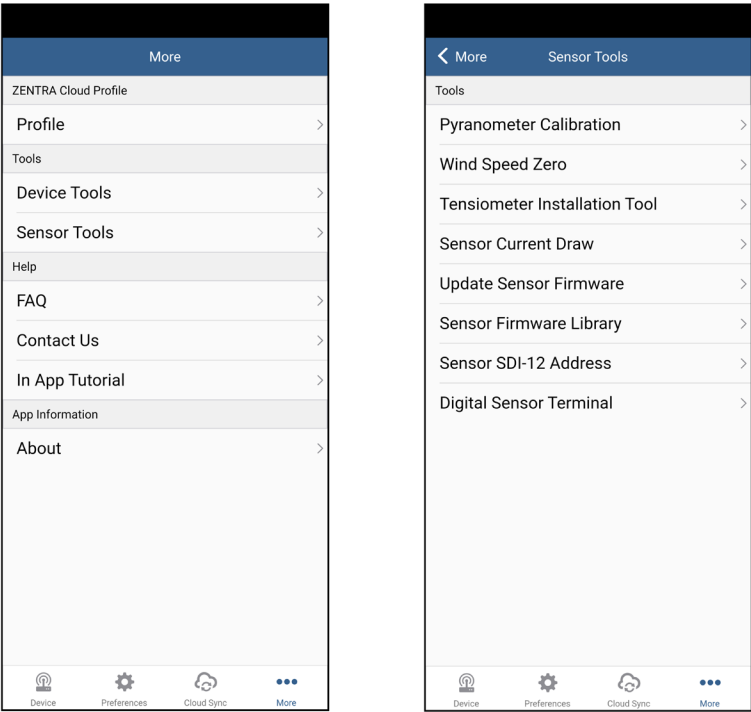

Figure 9 Views of More menu and Sensor Tools menu
9. From the More menu (Figure 9) select Sensor Tools under the Tools category.
10. On the Sensor Tools menu (Figure 9) select the Tensiometer Installation Tool option.